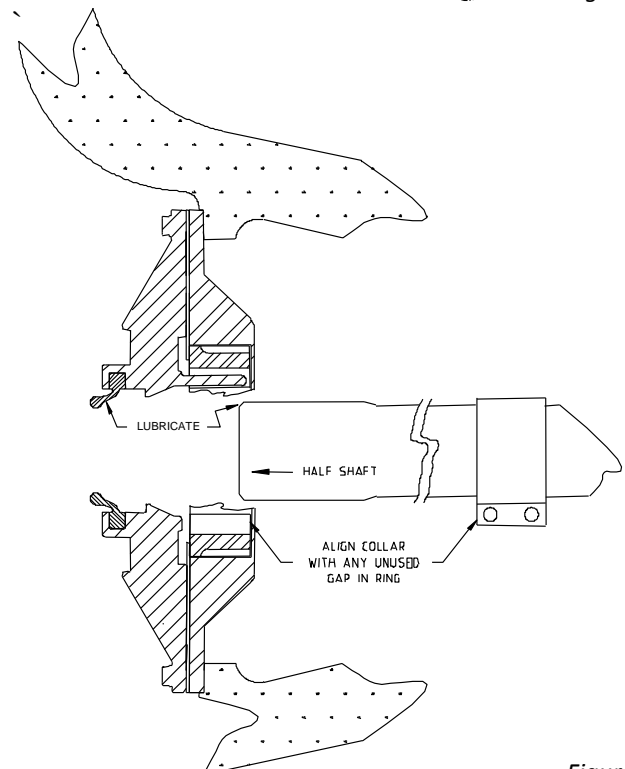

Figure 2
10. Insert the half shaft ensuring that the drive collar clamp is aligned with a notch in the traction aid ring (8W8744). Note that when an isolation seal is fitted there are three less useable notches in the traction aid ring (see Figure 2).